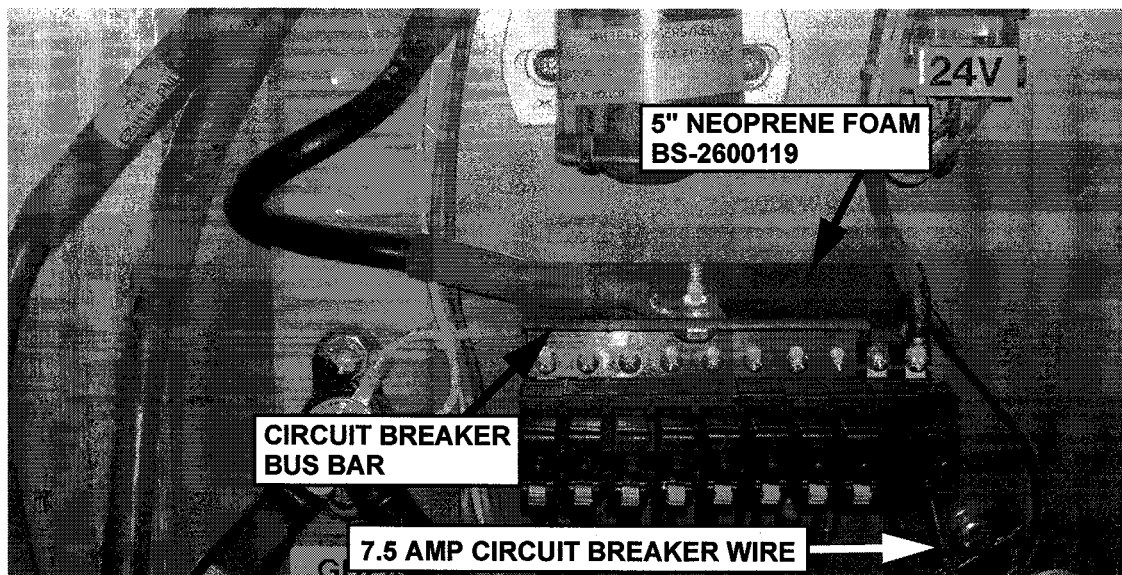

Figure 1-12 Neoprene Installation
9. Install the lower 7.5 amp circuit breaker wire to the right most position of circuit breaker mounting area. See **Figure 1-12**
10. Clean neoprene foam mounting surface. Allow area to dry completely. See **Figure 1-12**
12. Install neoprene foam behind the circuit breaker bus bar. See **Figure 1-12**